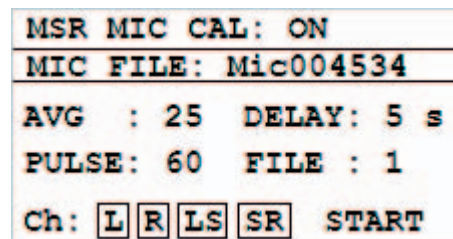

Fig. 5. Measurement screen.
**3. Measurements.** To perform room response measurements, select the MSR menu option to display the measurement screen (Fig. 5).
The 2.2 XP is factory configured to measurement parameters as displayed in Fig. 5. The MSR MIC CAL option should be turned ON and the MIC FILE field should display the microphone serial number as printed on your microphone